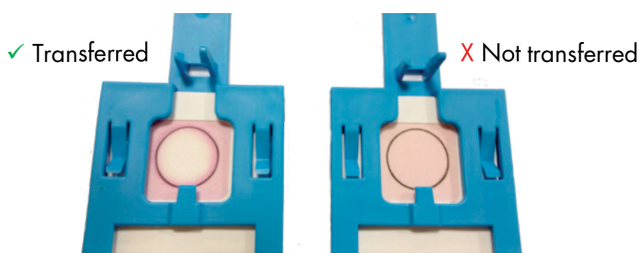

Figure 5. Sample transfer check.
13. When dry, check the indicating FTA card and confirm that the color has changed to white within the sample area (Figure 5).